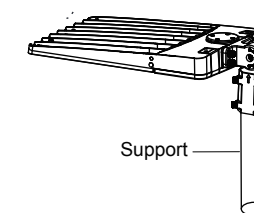

Figure 13
- Step 2: Loosen the fixing bolts and adjusting bolts, align the fixture to required angle. Tighten adjusting bolt and fixing bolts after the angle is confirmed. (Figure 13)
- Notice: Adjustable angle is 0~±90°(Figure 13)